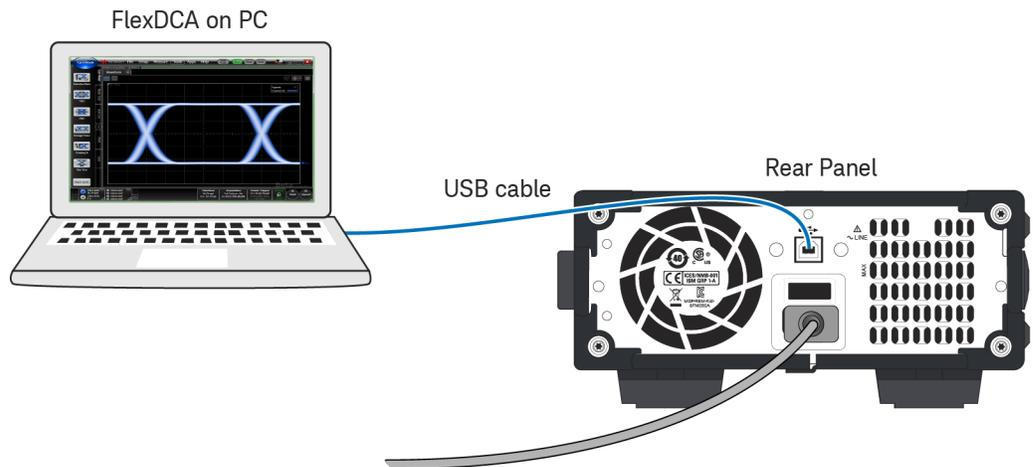

Figure 14. Connecting the USB cable
4. Connect the supplied USB cable to the DCA-M's rear panel as shown in Figure 14 on page 38. Connect the other end of the USB cable to the PC, N1000A, or 86100D, depending on the setup. If connecting to an N1000A or 86100D, connect the USB cable to one of the *rear-panel* USB ports.